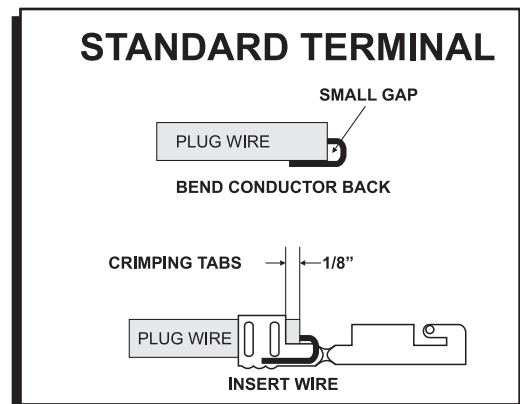

Figure 8 Positioning the Wire in the Terminal.
1. After stripping the sleeve, fold the conductor back along the wire insulation (Figure 8).